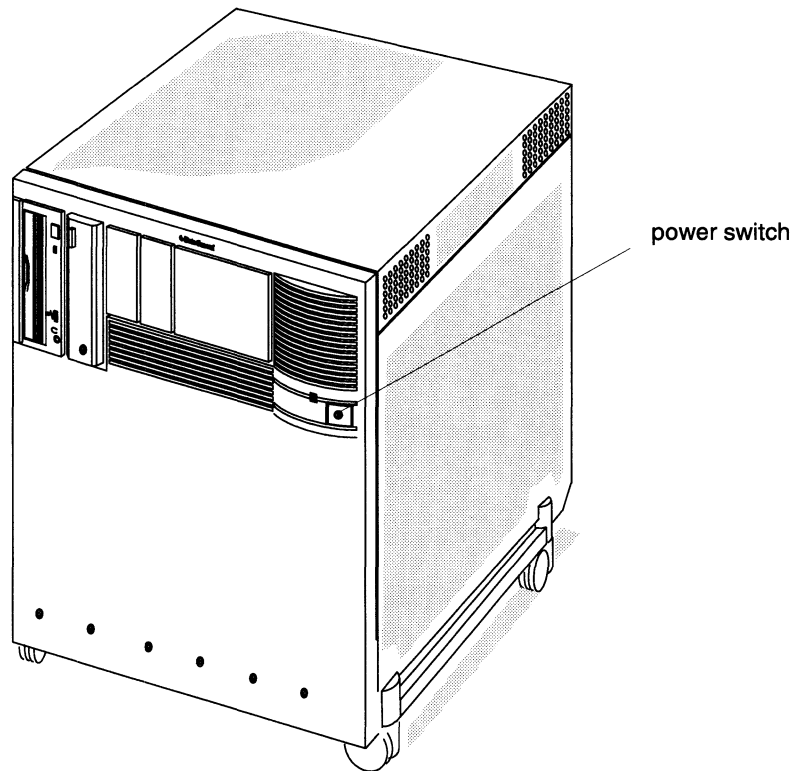

Figure 2-1 Powering on the AViiON 8500 computer
3. Turn on the computer unit by pressing the power switch on the front panel. Make sure the power switch on the computer lights up and returns to its position flush with the front panel. Figure 2-1 shows the location of the power switch.